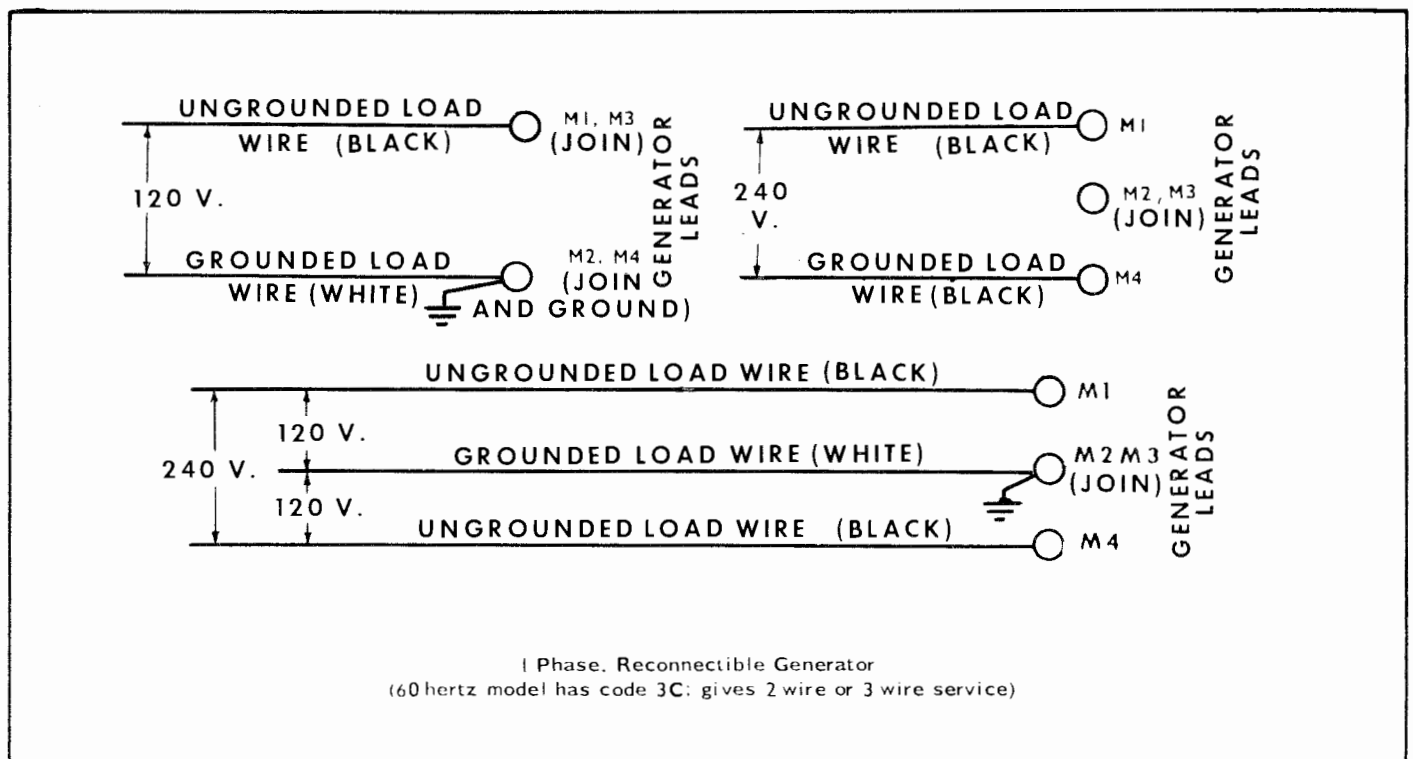

FIGURE 5. LOAD CONNECTIONS
The plant nameplate shows the electrical output rating of the plant in watts, volts and hertz. The plant wiring diagram shows the electrical circuits and connections necessary for the available output voltage. Also see Figure 5.
**Voltage Selection on Reconnectible Single Phase Generators:** Model 6.5NH-3C is reconnectible for use as 120/240 volt 3 wire, 120 volt 2 wire or 240 volt 2 wire power source (see Figure 5). Use the connection for two wire service when one load exceeds 1/2 the rated capacity. Balance the load when connected for three-wire service.